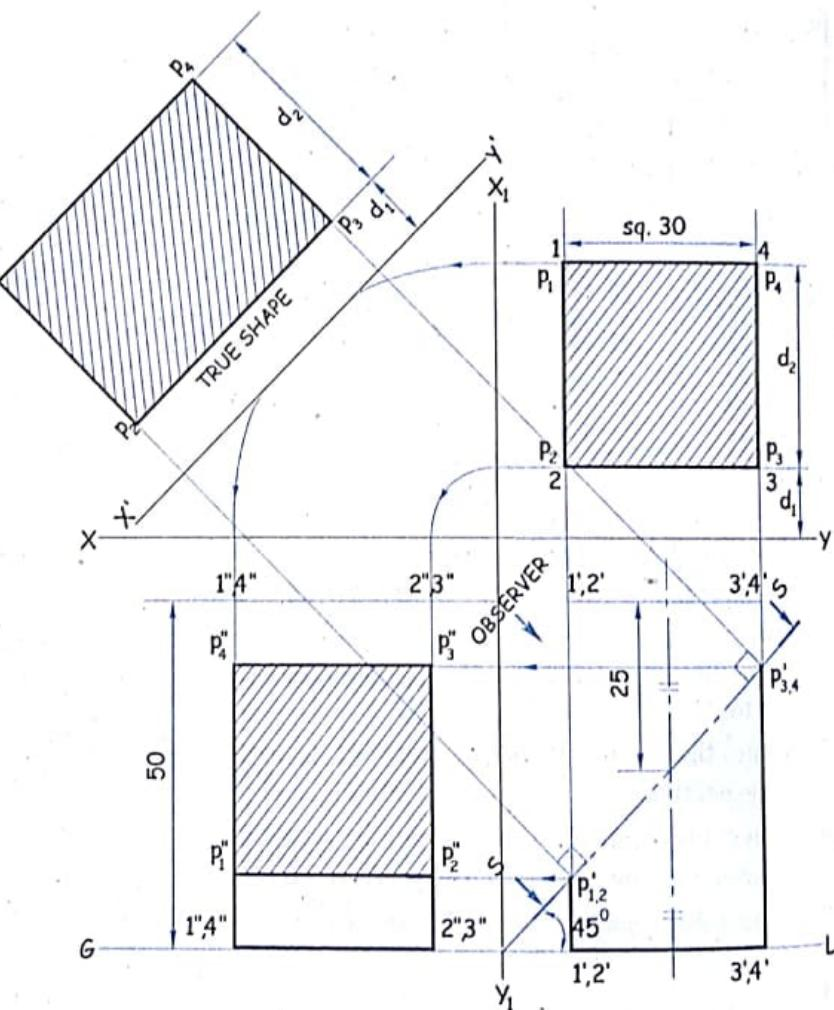

FIG. 11.9 (c)
- Draw the projectors through  $P_1, P_2, P_3, P_4$  perpendicular to the section plane  $S-S$  from the F.V. as shown in figure 11.9 (c).